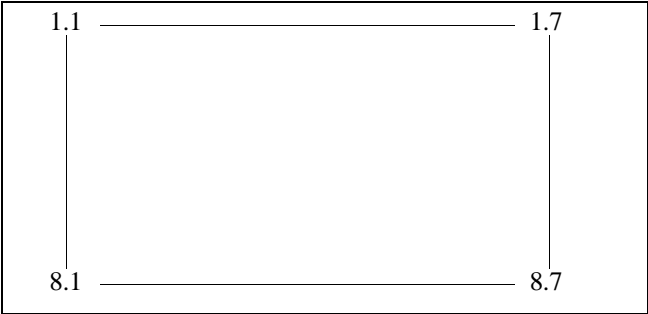

Figure 1 - 56-Key Position Map
With the 56-key storage option enabled, eight (8) groups with seven (7) keys in each group can be stored in the Keyloader. The 56-key storage map is shown in Figure 1. Key 1.1 has position number 1 and key 2.6 has position number 6.